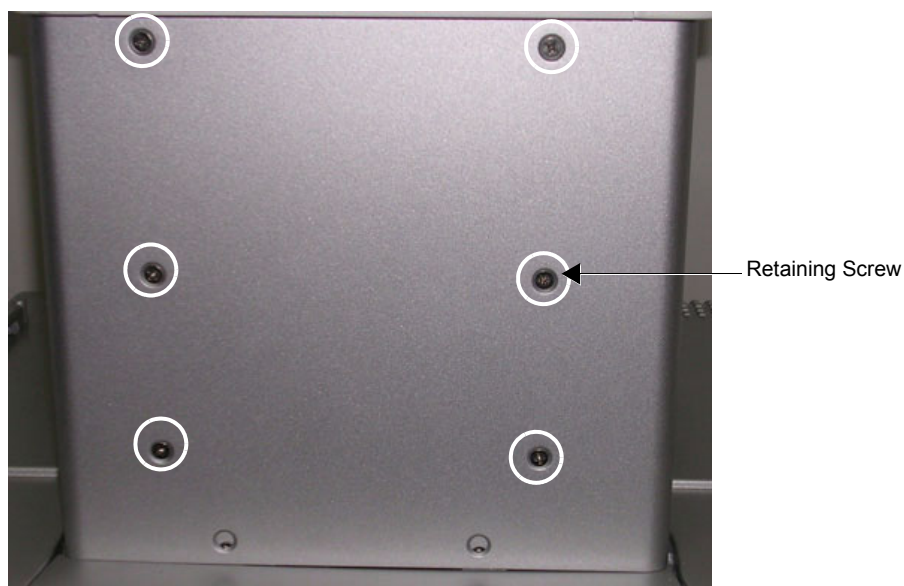

Figure 8-84 Lower Cover (Rear) Removal
Remove six retaining screws of the lower cover (rear) and while supporting the cover with one hand, gently remove the cover - see Figure 8-84).
- 1) Return the cover to the correct position on the rear of the SafeLock Cart - see Figure 8-84.